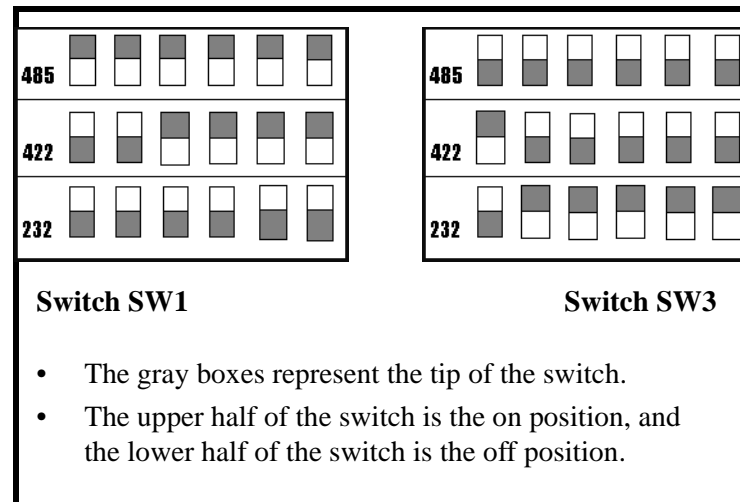

Figure 3-2 Dip Switch Settings
Figure 3-2 displays the settings for the COM2 port. A similar diagram is located on the side of the PA PowerStation next to the DIP switch cutout.
1. Choose the appropriate DIP switch settings from the diagram displayed on the back of the PA PowerStation or from *Figure 3-2*.